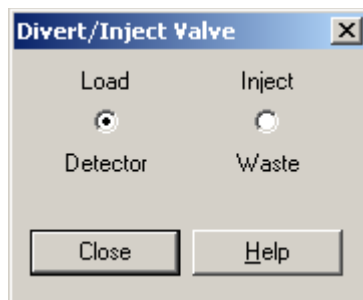

Figure 34. Divert/Inject Valve dialog box
- a. Click on the Divert/Inject button to open the Divert/Inject Valve dialog box. See Figure 34.